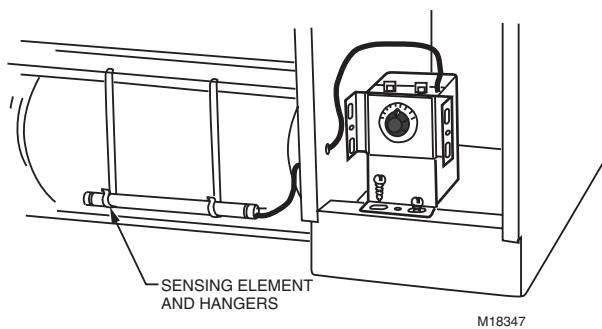

Fig. 6. Alternate mounting of the thermostat at the bottom front of the end compartment.
5. Clip the two bulb hangers to the drain pan or edge of the frame member. See Fig. 6. Tap the top end to ensure firm mounting.